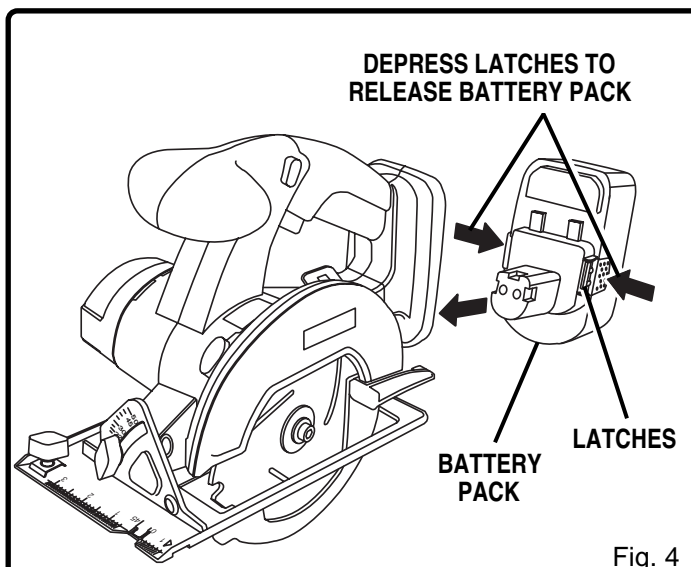

Fig. 4
- Locate latches on end of battery pack and depress to release battery pack from your saw. *See Figure 4.*
*See Figure 4.*